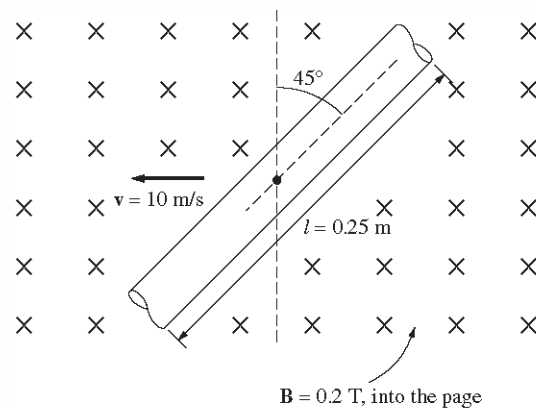

**FIGURE P1-6**
- 1-9.** A wire is shown in Figure P1-6 which is carrying 2.0 A in the presence of a magnetic field. Calculate the magnitude and direction of the force induced on the wire.